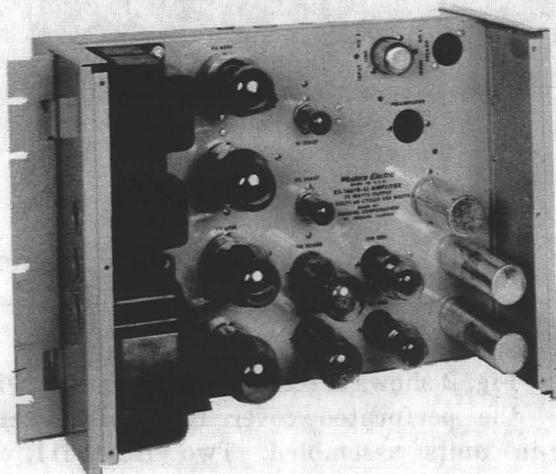

Fig. 3 - Rear View Showing 9-Pin Shorting Plug
1.08 Fig. 3 shows a rear view photograph of the amplifier with one 9-pin shorting plug mounted in the INPUT NO. 2 LINE socket. The amplifier is equipped with one shorting plug.